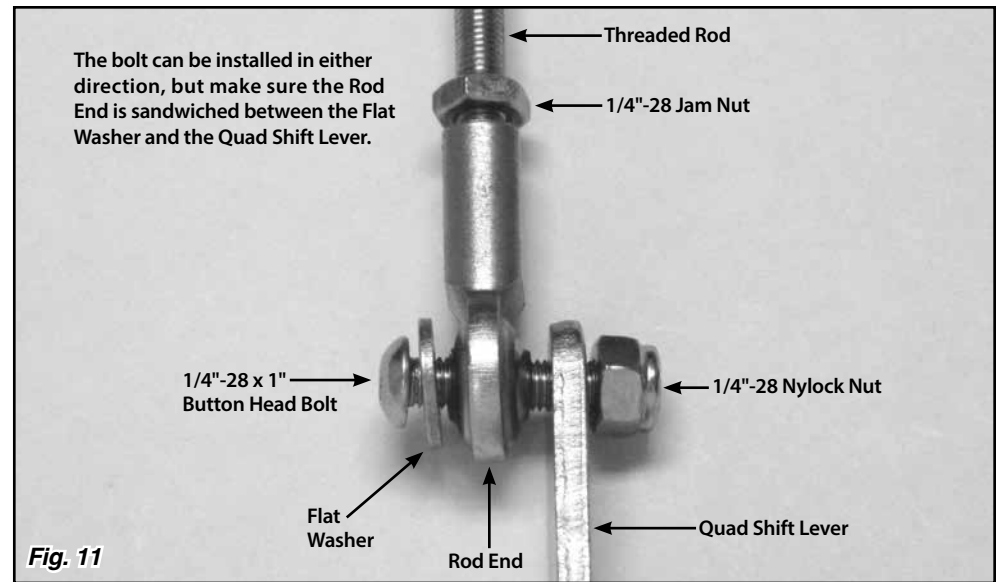

Fig. 11
Step 13: Verify that both 1/4"-28 jam nuts are on the long threaded rod. Thread one end of the long threaded rod into the rod end on the linkage arm, and install a rod end onto the opposite end of the long threaded rod. Attach that rod end to the **outside** of the quad shift lever using the 1/4"-28 x 1" button head bolt, flat washers, and nylock nuts as shown in **Fig. 11**. The 1/4"-28 x 1" button head bolt can be installed from either direction, but make sure the rod end is sandwiched between the flat washer and the quad shift lever.